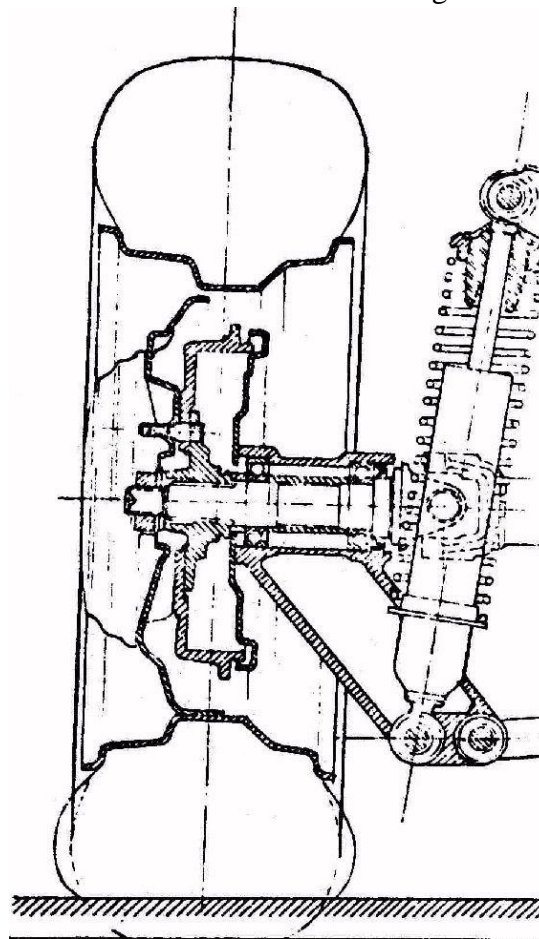

Fig. 6 - Cross Section of Rear Hub.
7. To remove the bearings, which are situated within the bearing housing of the radius arm, (see Fig.6) it is necessary to remove the radius arm itself (see section 'D').